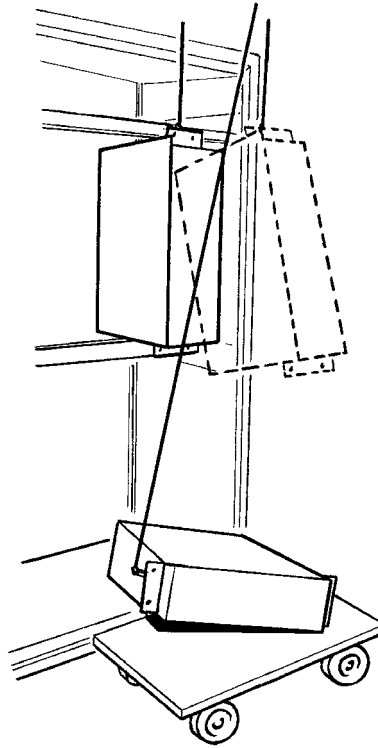

Figure 5-8 Lifting a Module
- (b) Lift the module to the appropriate height and move it into position to insert into the frame - see Figures 5-8 and 5-9.
- (g) Use four M6 x 12 mm pozi-head screws with plain and spring washers, supplied with the mounting frame kits, to secure the module in place - see Figure 5-8.